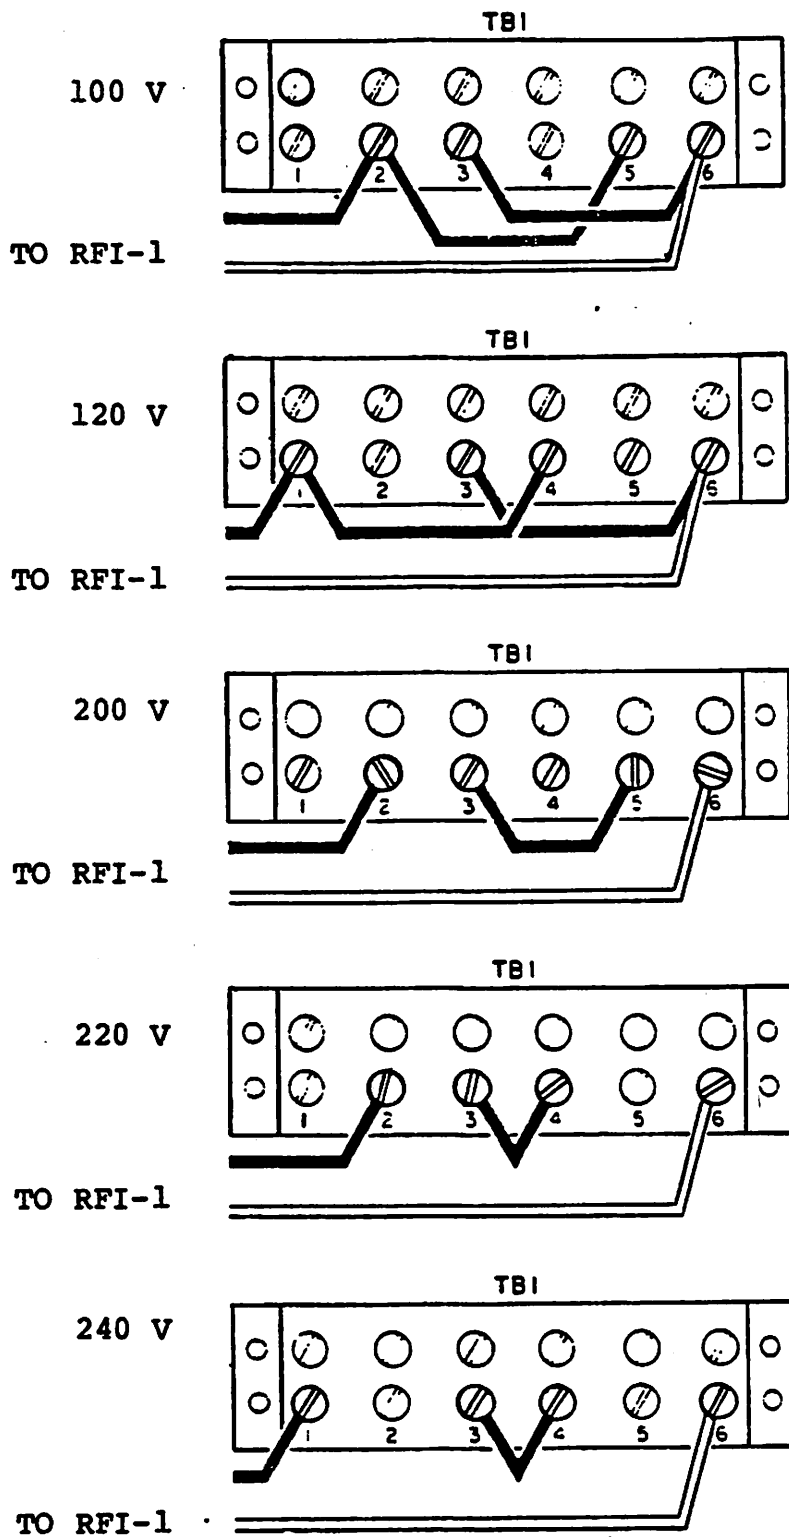

FIGURE 7-3 TERMINAL STRIP CONNECTIONS TB216
3. Relocate jumper wires and wires connected to RFI filter on terminal strip. Refer to Figure 7-3.